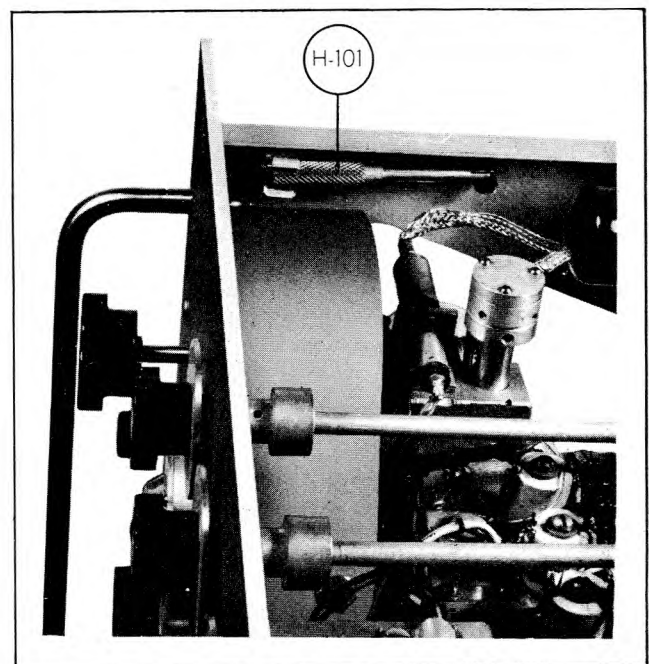

Figure 4-3. Mounting Location of Tool H-101
(2) Unscrew and remove the housing support E-142E.
(3) Remove special tool H-101 from its mounting on left gusset of chassis (see figure 4-3).